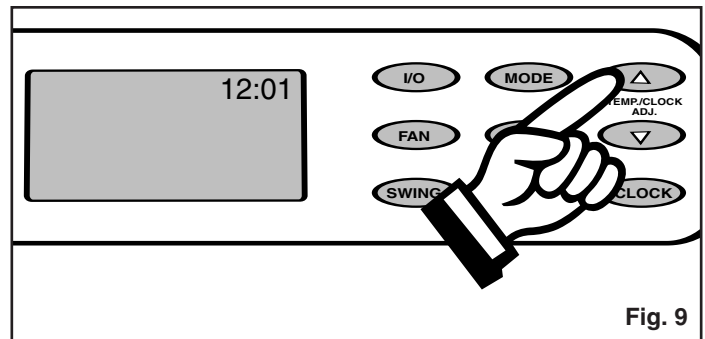

Fig. 9
2) Push either the  $\Delta$  or  $\nabla$  key pad, to enter the correct time of day. Each depression of the key pad will increase or decrease the time of day setting (1 minute increments). *Fig. 9.*